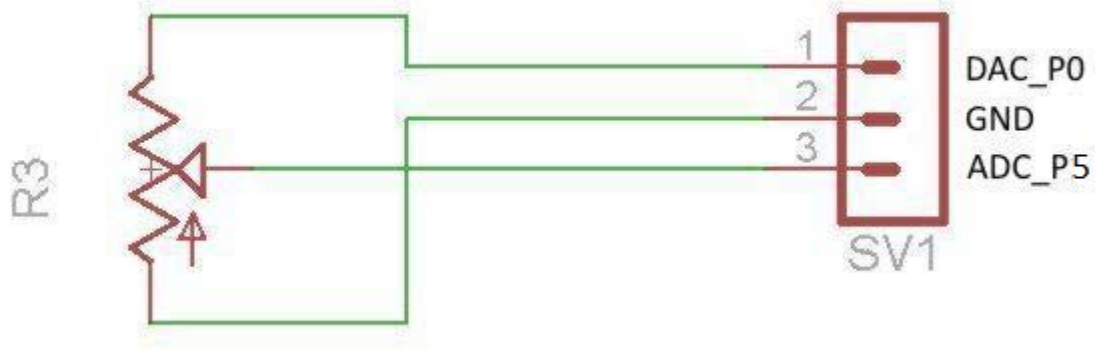
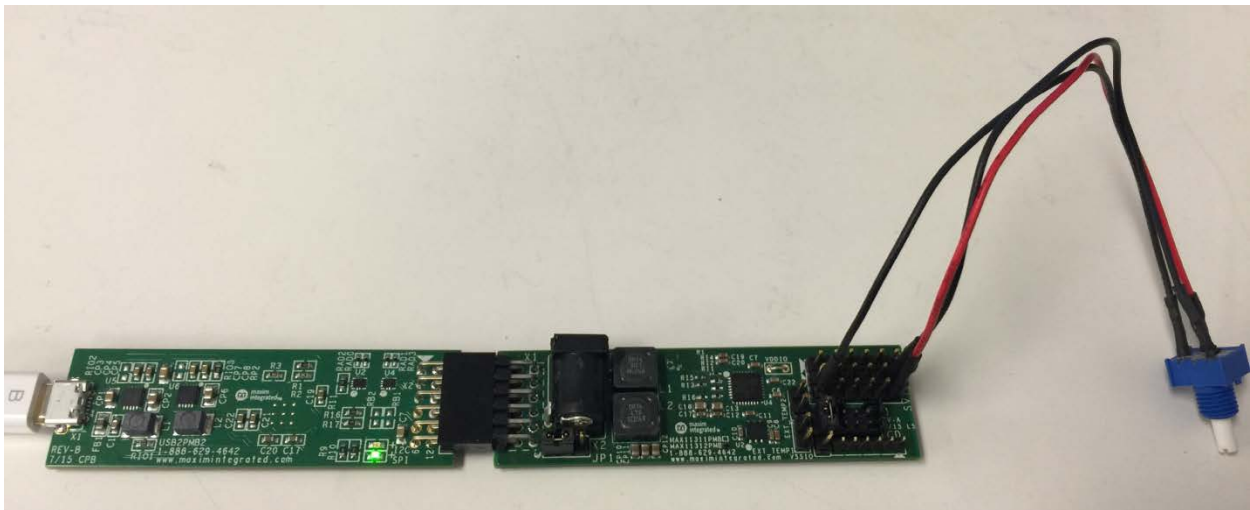

Figure 27. Potentiometer schematic connection to MAX11312PMB# ports.
Figure 28. Potentiometer setup for demonstrating the behavior of a DAC with ADC monitoring.
1. See **Figure 27** for the potentiometer schematic connection. Make sure that (1) is connected to the DAC output of the MAX11312 Port 0, (2) is connected to GND (middle row), and (3) is connected to the ADC MAX11312 Port 5. See **Figure 28** for the setup.